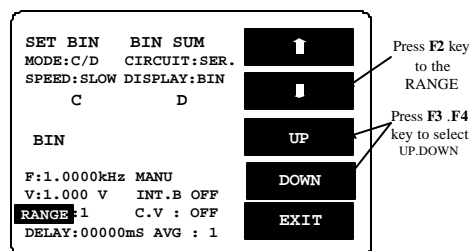

Figure 8-10
- Press F3 or F4 key to select up or down value within 1~4 range shown as Figure 8-10 below.